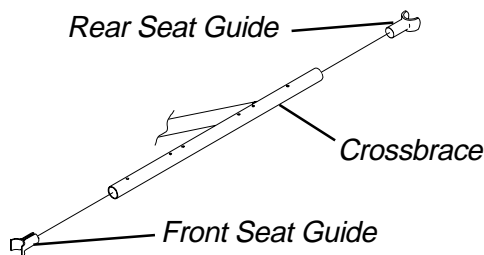

FIGURE 5 - ALL PERMANENT ARM WHEELCHAIRS
1. Perform one (1) of the following:
**ALL PERMANENT ARM WHEELCHAIRS (FIGURE 5).**